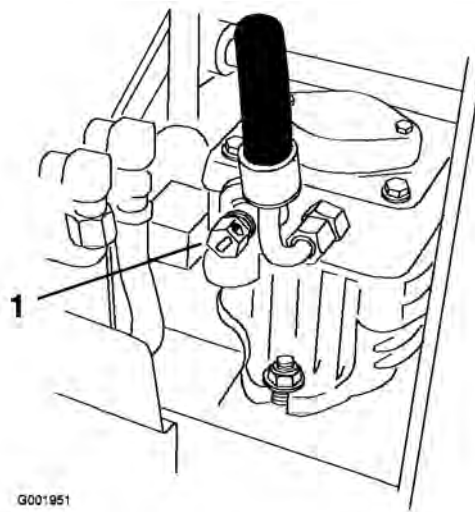

Figure 11
2. Open the by-pass valve on both pumps by turning them counter clockwise 1 to 2 turns. This allows hydraulic fluid to by-pass the pumps and the wheels to turn (Figure 11).